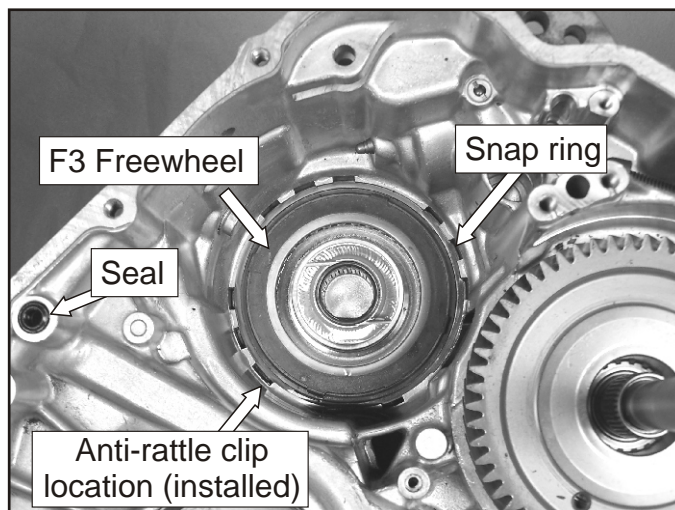

Figure 253
- 181. Install the F3 freewheel and snap ring into the case. Install a new rubber seal into the case. See Figure 253.